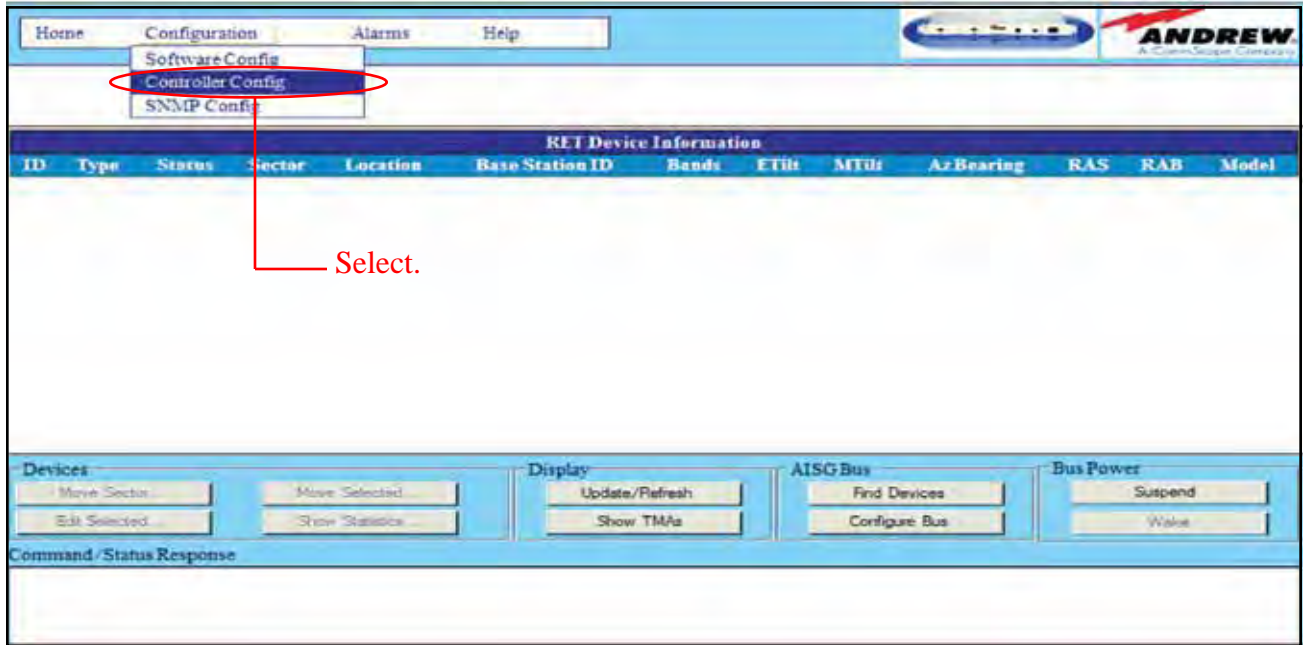

Figure 5-22. Selecting Configuration → Controller Config from Controller's Main Menu.
5. After the controller's main interface screen displays in the Internet browser, go to **Configuration**→**Controller Config** (Figure 5-22).